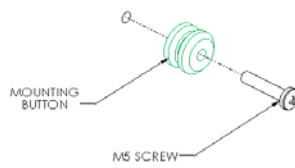
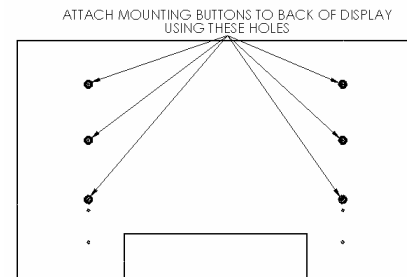

Figure 3
Figure 4
2. Attach mounting buttons to the display using the M5 screws provided (see Figure 3 & Figure 4).